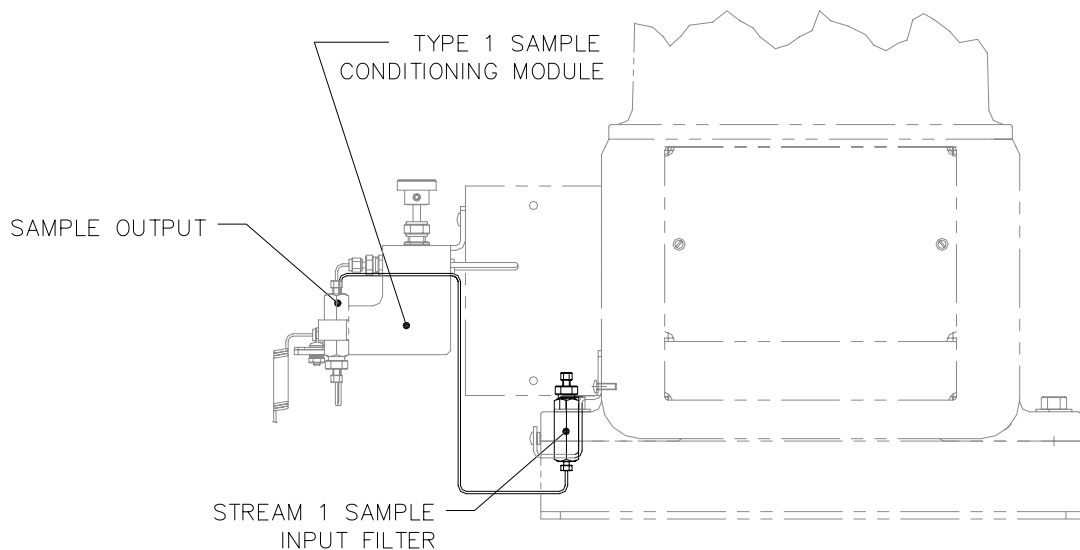
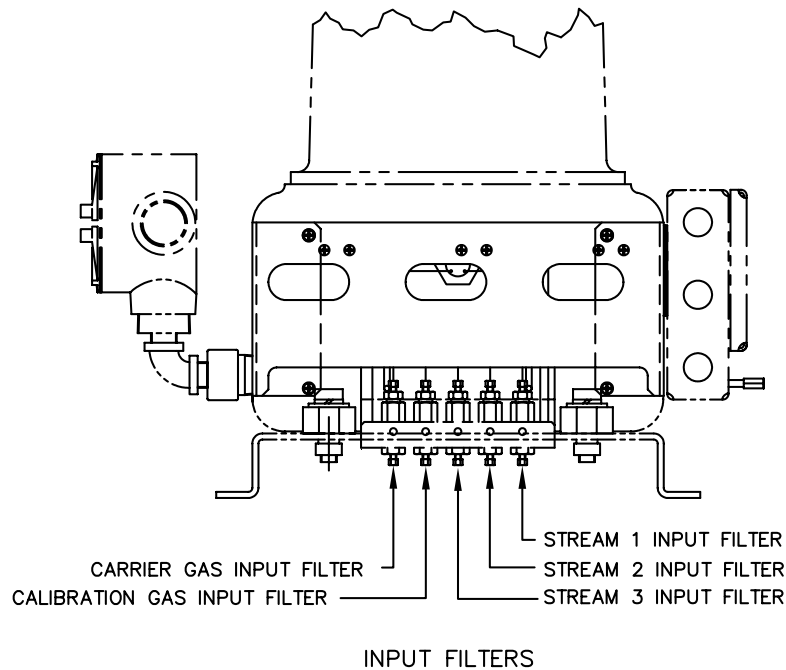

Figure 31 Transport Tube Assembly to Analyzer Filter
Figure 32 Btu Transmitter Sample Input Filters
- 3) Locate the Sample Out fitting on the module (see Figure 31). Starting with the short end of the Transport Tube Assembly make bends in tubing as required to fit the long end of the assembly into corresponding Sample Input Filter Input located on the bottom of the filter (see Figure 32).